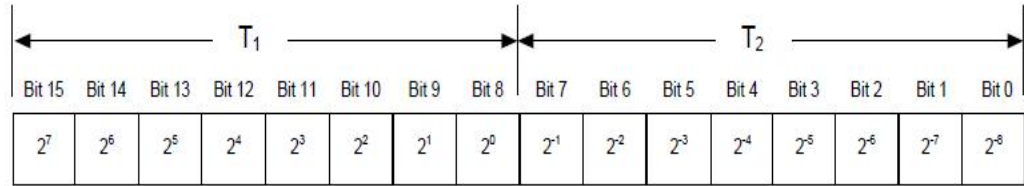

Figure 5-2 Converting Temperature Output to [°C]
2) Temperature output [°C] = $\frac{T_1 \cdot 2^8 + T_2}{2^8}$? See Figure 5-2 for data bit format.